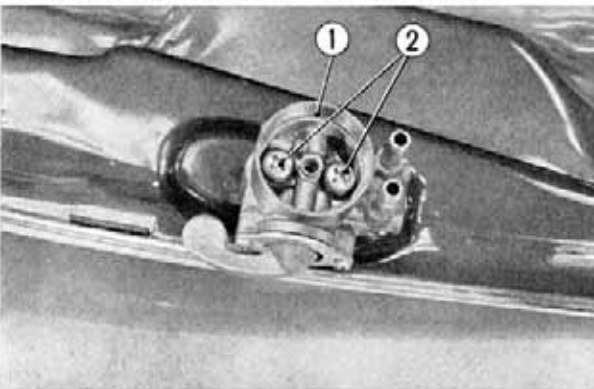

Fig. 6-22 ① Fuel valve
4. Remove the two fuel valve mounting screws and remove the fuel valve from the tank. (Fig. 6-22)